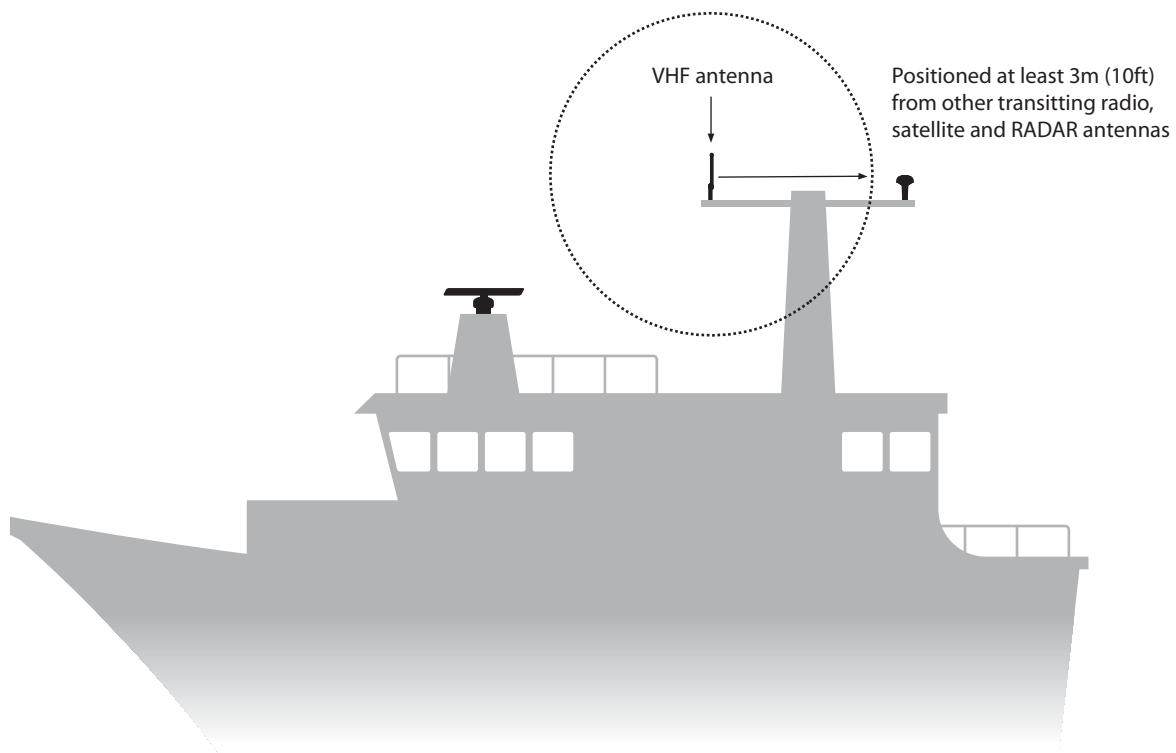

Figure 40 VHF antenna installation
- Ideally the AIS VHF antenna should be mounted directly above or below the ship's primary VHF radiotelephone antenna, with no horizontal separation and with a minimum of 2m vertical separation. If it is located on the same horizontal level as other antennas, the distance apart should be at least 10m. Refer to Figure 40 for further guidance.